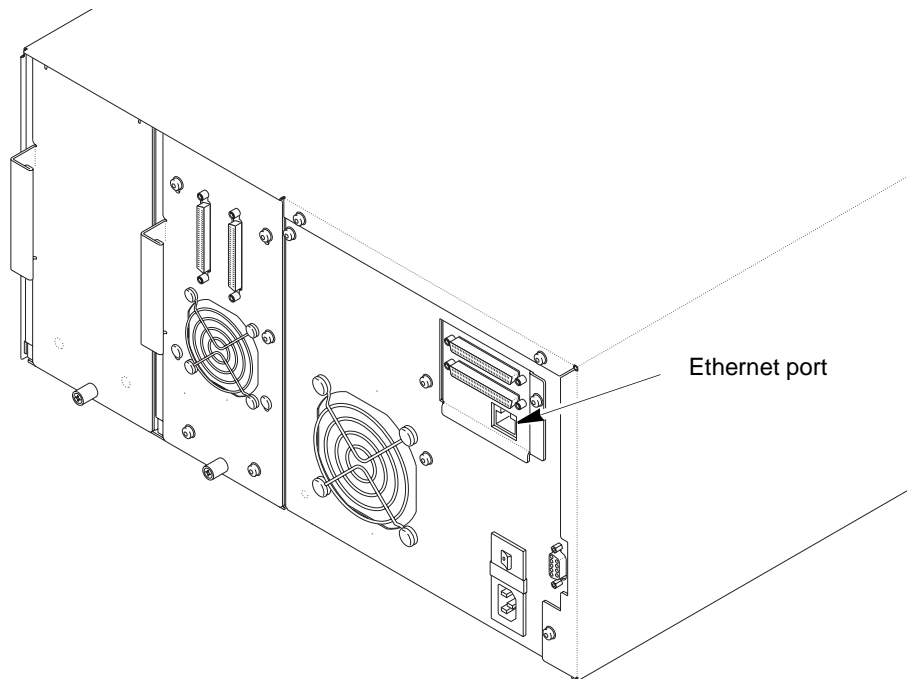

Figure 2-15 Location of Ethernet port (221L shown)
1. Insert one end of the cable into the library's Ethernet port until you hear it snap into place. The Ethernet port is located on the back of the library, as shown in Figure 2-15.